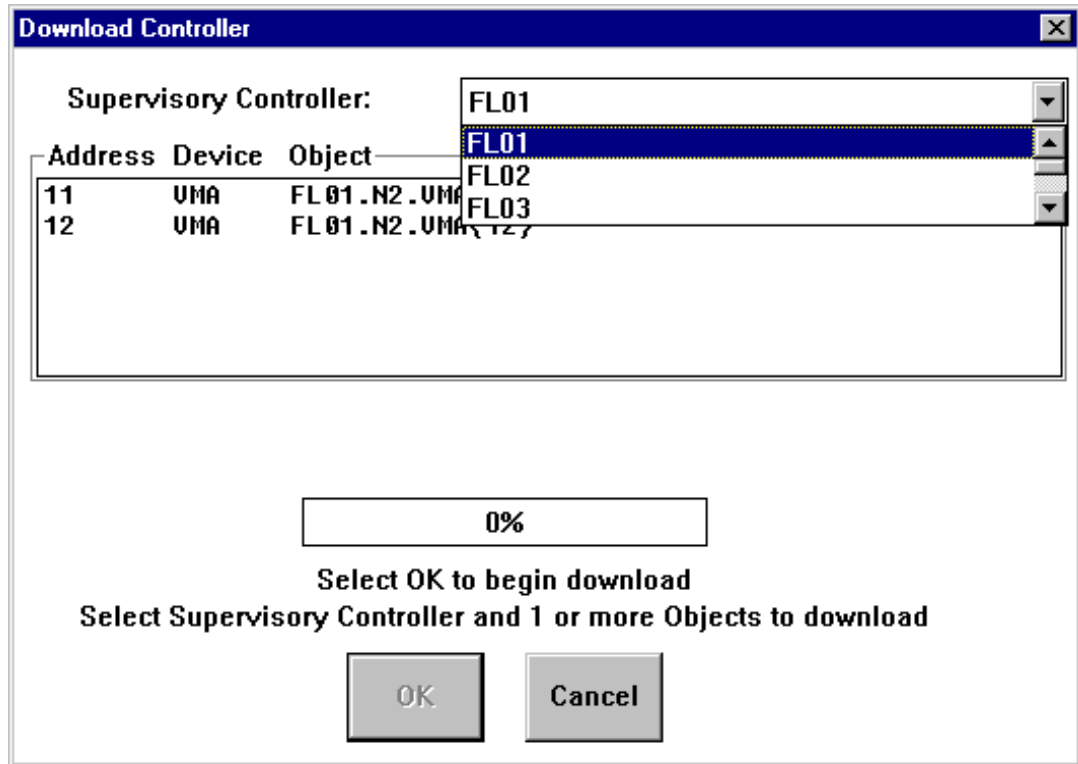

Figure 17-3: Download Controller Dialog Box
1. On the Download menu, click Current Configuration. HVAC PRO software builds a list of all Supervisory Controllers on the active network. The Download Controller dialog box appears (Figure 17-3).